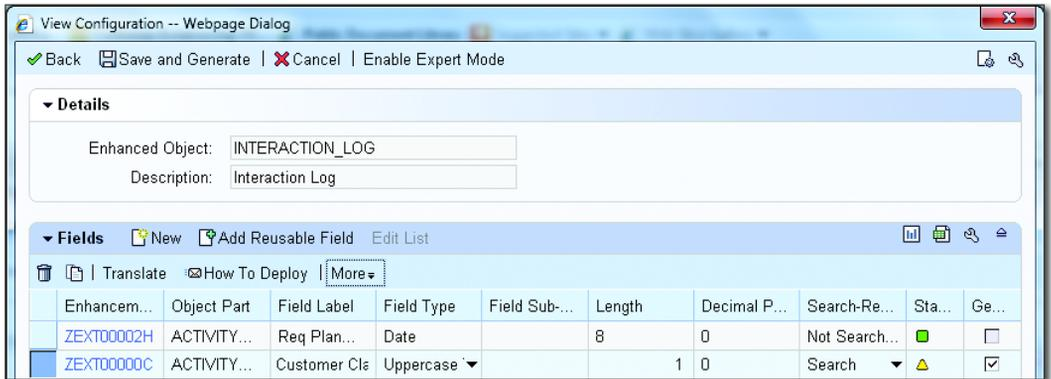

Figure 8.63 Save and Generate the Custom Field
6. Select the field that you created, and click the SAVE AND GENERATE button, as shown in Figure 8.63. Click the BACK button after the field is generated. When the popup appears, create the transport request, and save the changes in the transport request just created.